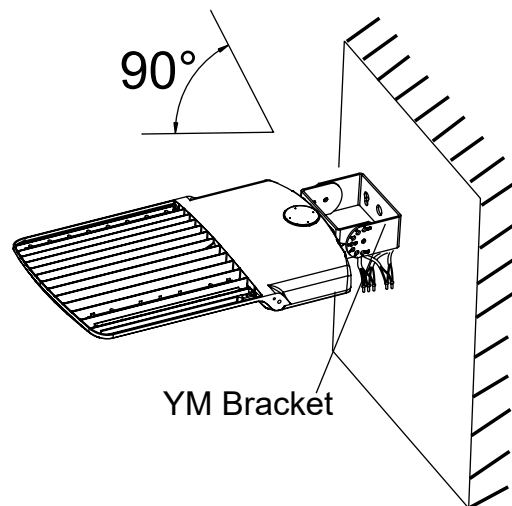

FIGURE 14
- Connect the fixture on the bracket and tighten the screws. Connect the wires properly and put them into the junction box. (Figure 14)